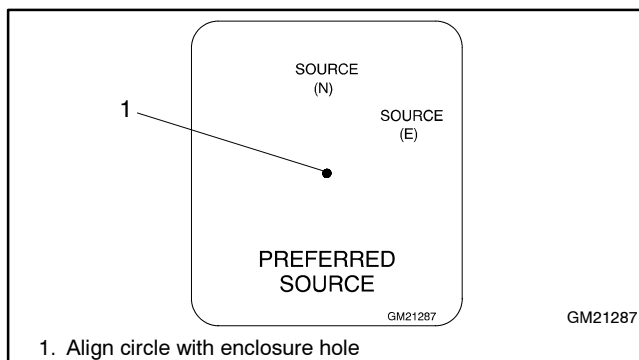

Figure 4 Attaching Selector Switch Decal
- 2.2 With the surfaces clean and dry, apply the decal (GM21287) to the hole in the enclosure door. Align the decal's small circle to the center of the hole. See Figure 4.